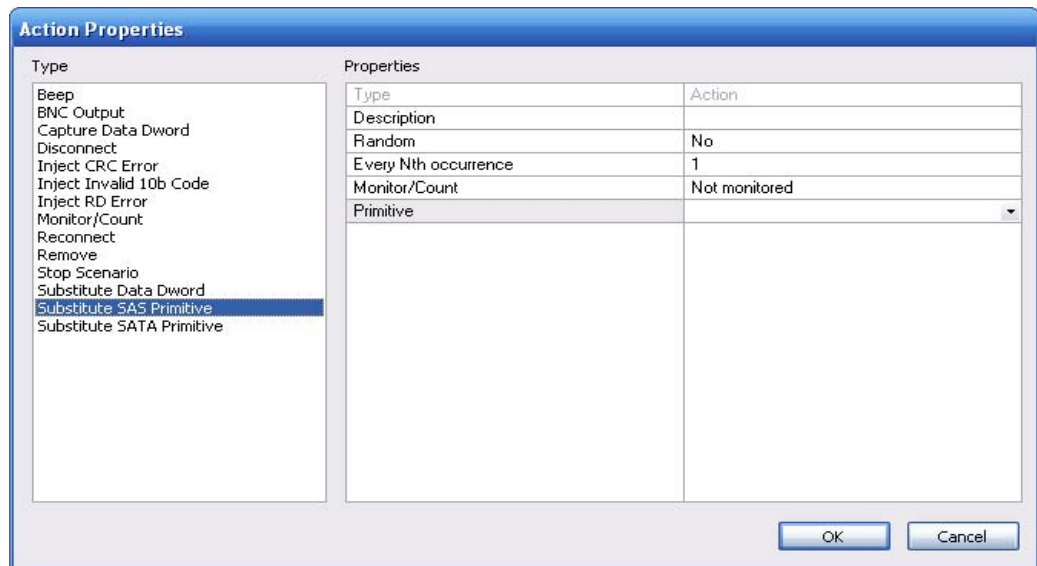

Figure 51 Example 2: Action Properties Dialog Box
Step 5 The Action Properties dialog box appears (Figure 51). In the Type column on the left, choose **Substitute SAS Primitive** as the action you want when an RRDY (Normal) occurs.